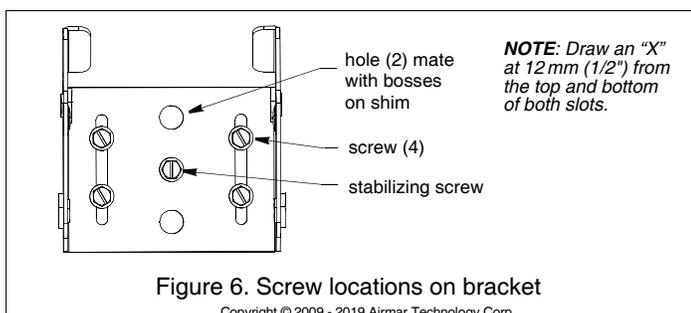

Figure 6. Screw locations on bracket
2. Remove the transducer assembly from the bracket by removing the locking pin and the hinge pin (Figure 4). Hold the bracket with any shim(s) in place against the transom at the marked location. Draw an "X" at 12mm (1/2") from the top and the bottom of each slot (Figure 6).
1. Prevent the bracket from moving out of position using the remaining hex-washer-head screw. Drill the hole for the stabilizing screw through the center hole of the bracket, any shim(s), and the hull (Figure 6).